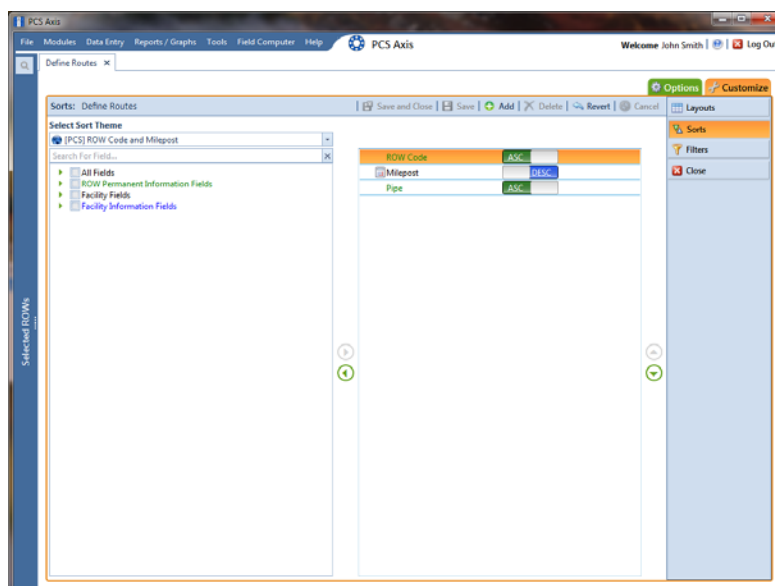

Figure 8-48. Sorts
- 3 Click the **Customize** tab , then the **Sorts** button  to open the *Sorts* page (Figure 8-48, page 374).